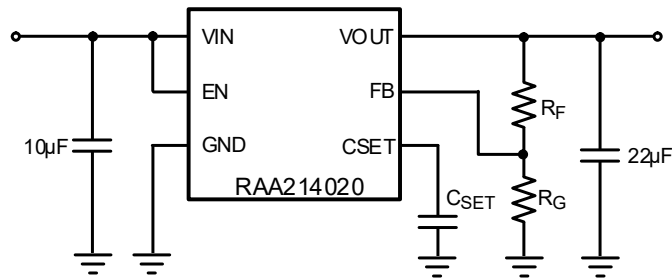

Figure 139. RAA214020 Simplified Application Schematic
The RAA214020 output voltage ( $V_{OUT}$ ) can be programmed down to 0.9V and up to  $5.5V - V_{DO}$  using the feedback (FB) resistors,  $R_F$  and  $R_G$ , as shown in Figure 139.